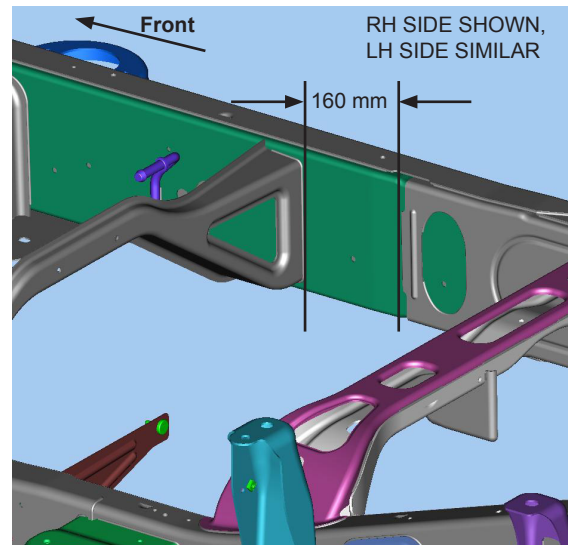

Figure 2
2. Locate Crossmember on LH and RH sides, 160 mm forward of factory seam of Rear Frame Section as shown. Figure 2.